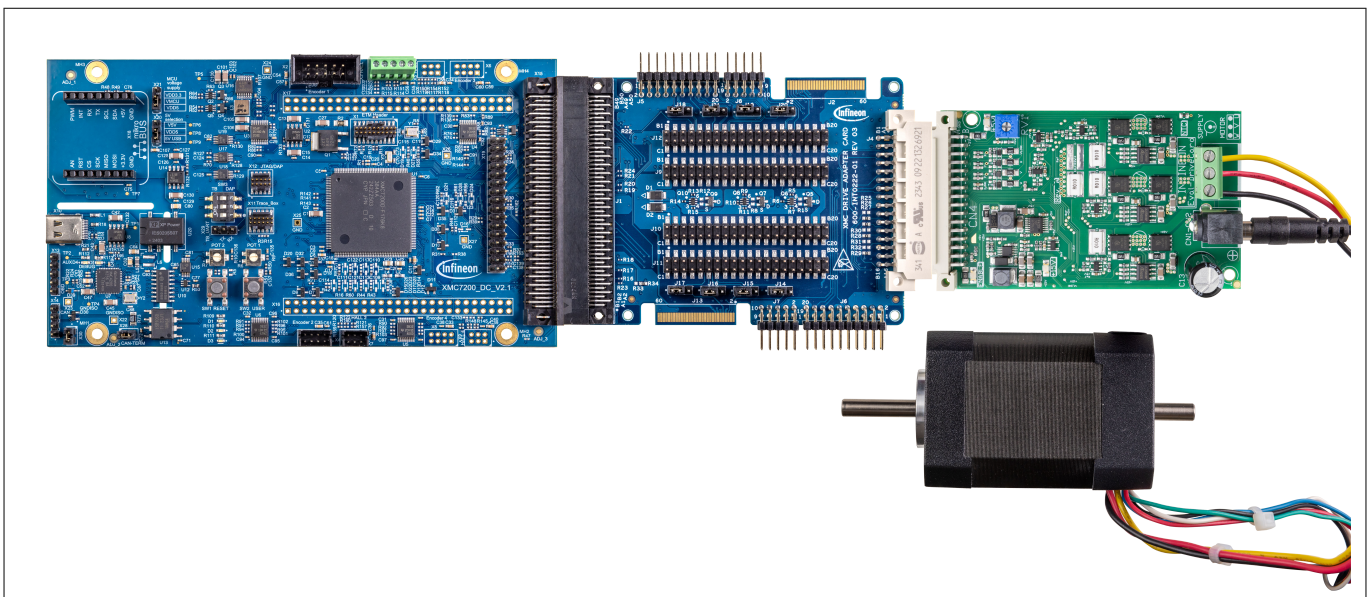

Figure 5 KIT_XMC7200_MC1 complete setup with motor
3. Connect the control and power board using the adapter board as shown in Figure 5